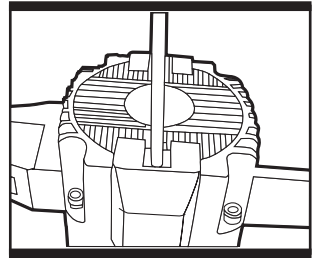
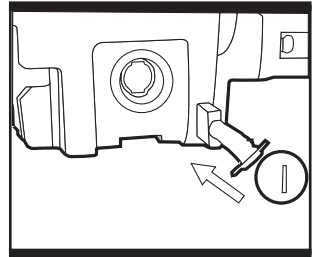

Fig. 5
Fig. 6
(Fig. 5 & Fig. 6)
**Warning!** These carbon brushes should be replaced by a qualified service engineer. Carbon brush should be replaced in pairs. Remove the covers for carbon brush. (as shown Fig. 5 & Fig. 6)